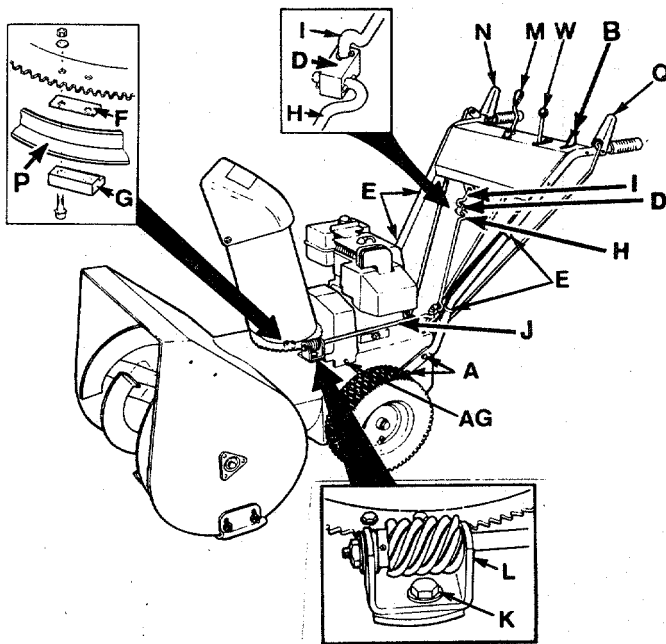
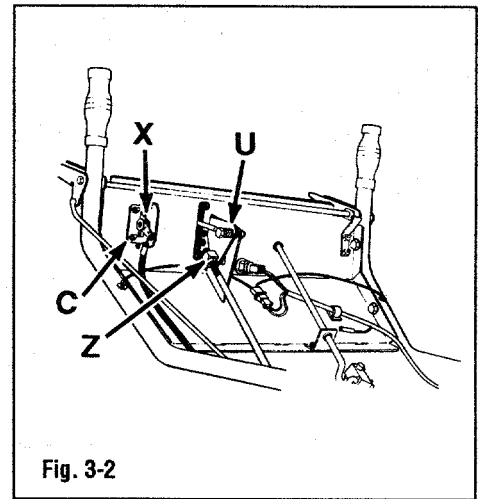

Fig. 3-1
Fig. 3-2
Secure handlebars to chassis with four 3/8-16 x 3/4 bolts (A, Fig. 3-1).
1. Insert throttle lever (X, Fig. 3-2) up through slot in left-hand side of control panel. Secure with #10—24 x 5/8 screws and #10 external lockwasher nuts (C). Screws must pass through holes in throttle base plate.
2. Place throttle lever knob (B, Fig. 3-1) in 200° F water for 30 minutes. Tap knob onto upper end of throttle lever.
1. Remove both side sets of shims and clips (F and G, Fig. 3-1 inset). Loosen but do not remove front shim and clip. Apply multi-purpose grease on surface of discharge chute flange (P).
3. Install worm gear support bracket (L). Teeth in worm gear must mesh with teeth in base of discharge chute assembly. Insert bolt (K) through hole in worm gear support bracket (L) and mounting tab on unit. Install and tighten nut on bolt (K).
A. Insert end of upper chute control rod (I, Fig. 3-1 inset) as shown into nylon swivel block (D) on end of middle chute control rod (H).
B. Insert a cotter pin through hole in upper section (I) of chute control rod. Bend cotter pin so it remains in hole. Repeat steps A and B for lower end of control rod middle section (H).
5. Rotate chute control crank (M, Fig. 3-1) at handlebar console. Deflector chute should turn without binding. Readjust bracket (L) and locknut (R) as necessary.
One end of auger drive control rod is already attached to auger drive handlebar control lever (N, Fig. 3-1).
One end of wheel drive control rod is already attached to wheel drive handlebar control lever (Q, Fig. 3-1).
A. Loosen jam nut (JJ) and thread upward on rod. Turn adjuster (SS) to increase or decrease length as needed.
B. Tighten jam nut (JJ) against adjuster (SS).
4. While holding gear shift lower rod down, thread pivot block (Z, Fig. 3-2) so it fits into hole in gear shift lever upper section (U).
5. Reinstall pivot block (Z) in gear shift control lever hole and secure with flat washer and hairpin cotter. Tighten jam nut against pivot block.
6. Move gear shift control lever (W, Fig. 3-1) through full range of travel and check for binding, interference, etc.
1. Attach gear shift lever upper section (U, Fig. 3-2) and lower section (Z) together.
2. Move gear shift lever (W, Fig. 3-1) to fifth gear. Remove hairpin cotter and flat washer from pivot block (Z, Fig. 3-2). Disconnect pivot block from gear shift lever.